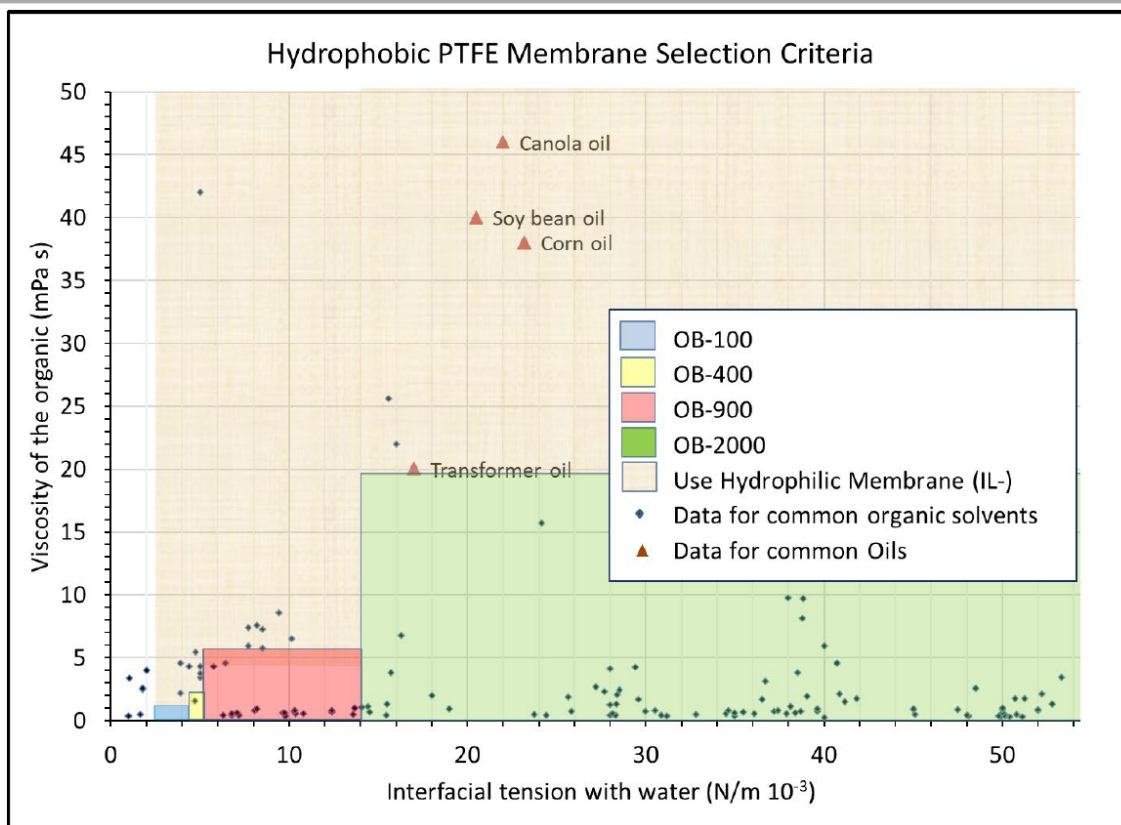
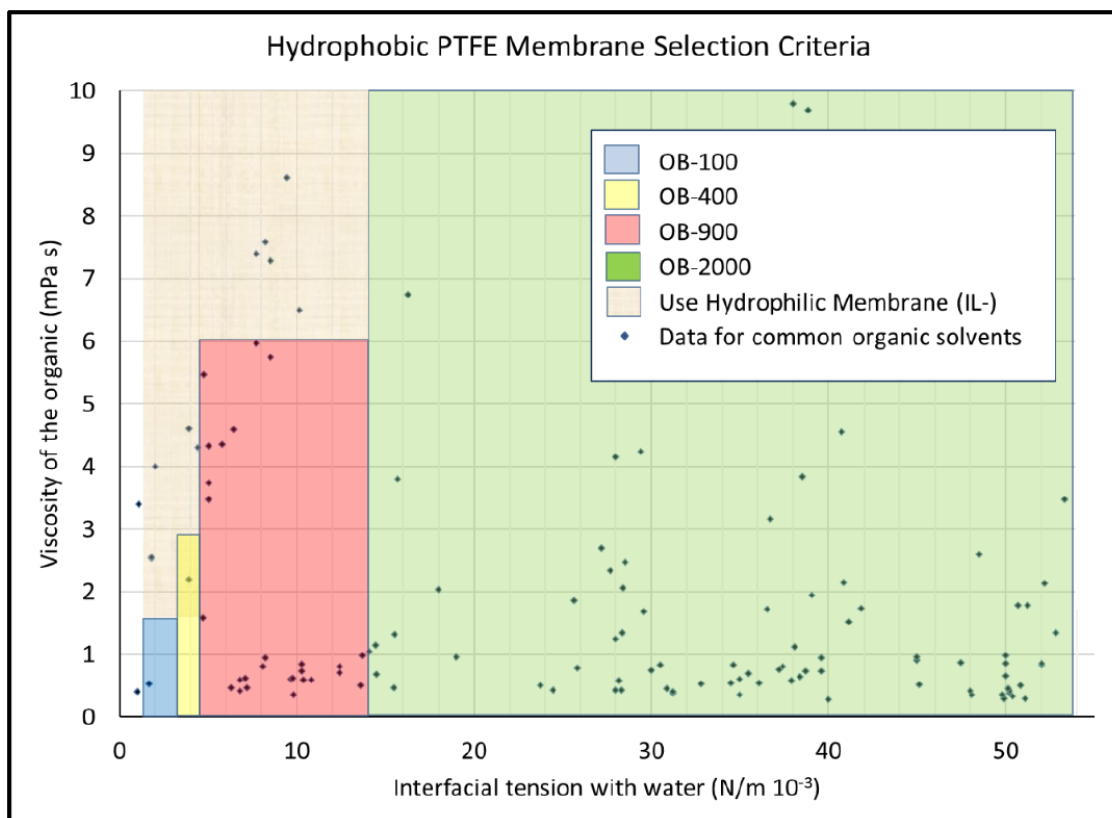

Fig 1—Membrane selection chart. Locate your liquid-liquid system on the chart to find out the rec-
Fig 2—Membrane selection chart. Expanded view of low viscosity values of box in Fig 1.
- 3. Locate the values on the graph.** Figures 1 and 2 are a plot of the organic's viscosity (permeating phase) vs. interfacial tension with the aqueous. The colored regions indicate what membrane is suitable in each range of the parameters (Fig.2 shows details of Fig 1 for low values of viscosity). Use the values of viscosity and interfacial tensions of your systems to identify the adequate membrane for your case. If your system falls near the boundary of a colored area, selecting the smaller pore size membrane may save some trial time.
For selection of a hydrophilic membrane, the steps are the same as described for hydrophobic membranes, except Figure 3 should be used instead of Figure 1 and Figure 2.